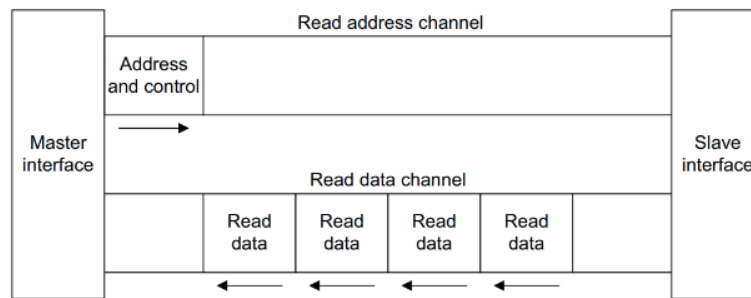

Figure 22. Channel architecture of reads
Figure 22 shows how a read transaction uses the read address and read data channels. First the address and control bits are sent from the master device, then the slave device responds with the data on the read data channel.
- A read data channel to transfer data from the slave to the master (Figure 22).